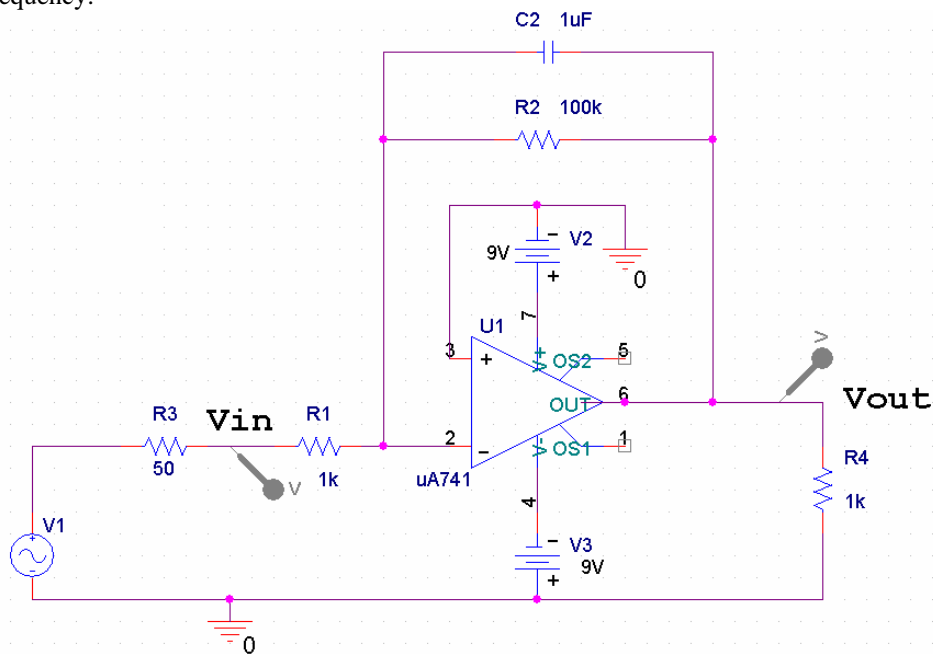

Figure C-3
- Build the integration circuit shown below in figure C-3. V1 should have a 100mV amplitude and 1K Hz frequency.
- Build the op-amp integrator circuit as shown in figure C-3.